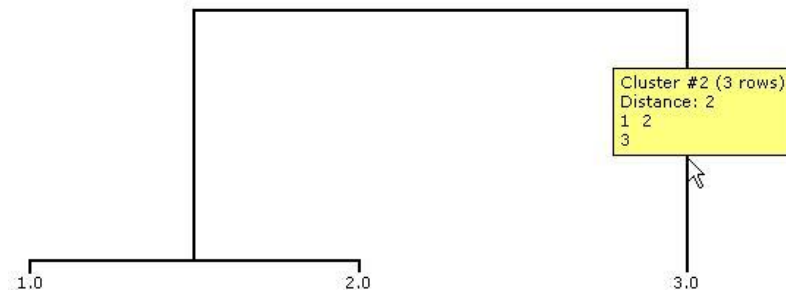

Figure 8.4: Viewing a complete linkage
Complete linkage: The distance between two clusters is equal to the distance between the two furthest members of those clusters (Figure 8.4). The distance between two clusters is determined by the largest distance between any two objects in the two clusters (“furthest neighbors”). Complete linkage tends to produce clusters that are spherical and compact. This method usually performs well when the objects actually form naturally distinct “clumps.” Figure 8.4 shows complete linkage on 1, 2, and 3. First, 1 and 2 are combined with a distance of 1. Next, the clusters (1, 2) and (3) are combined with a distance of 2 (the distance from 3 to 1).